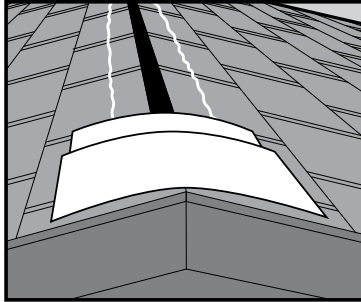

Fig. 3
1) Prior to installing RidgeCat™ Vent, cut a minimum 6-inch wide hip & ridge shingle and nail it over the ridge at each rake edge. See Figure 3.